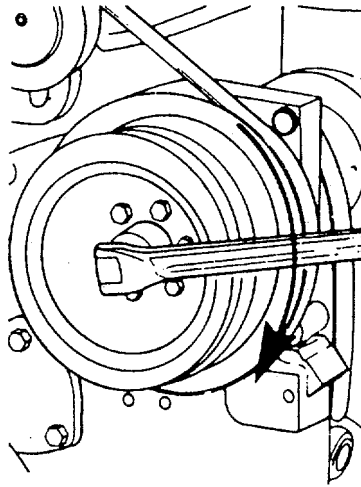

FIGURE 2-29. Rotating Accessory Drive.
- (1) With the rocker lever covers removed and rocker housing capscrews tightened to 60 ft-lb torque, alternately tighten the injector holddown clamp capscrews to 156 in-lb torque. Refer to paragraph 2-40.
- (2) General Adjustment information:
- (b) Use the accessory drive shaft to rotate the crankshaft. See Figure 2-29.